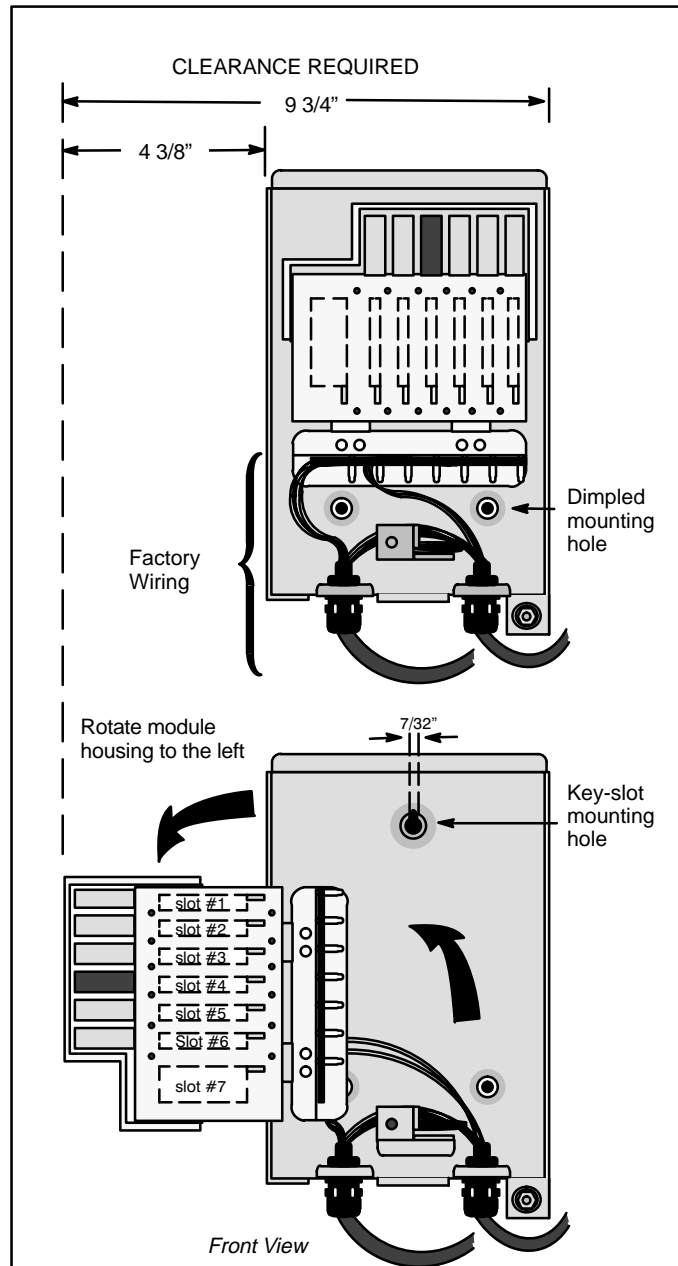

Figure 3. Required Clearance For Rotating Module-Housing (Cover Removed)
2.	Rotate the module-housing to the left, as shown in Figure 3.
3.	Using the key-slot mounting hole on the backplate of the AC 2307 (see Figure 3) as a template, mark the mounting location for the unit, leaving adequate clearance on the unit's left side.
For off-customer premises applications, the AC 2307 should be equipped with CiSA-4 Surge Arrestors. Rotate the module-mounting housing to the left, as shown in Figure 3, to expose the module connector pins. Install a CiSA-4 Surge Arrestor assembly over each set of pins as shown in 5.